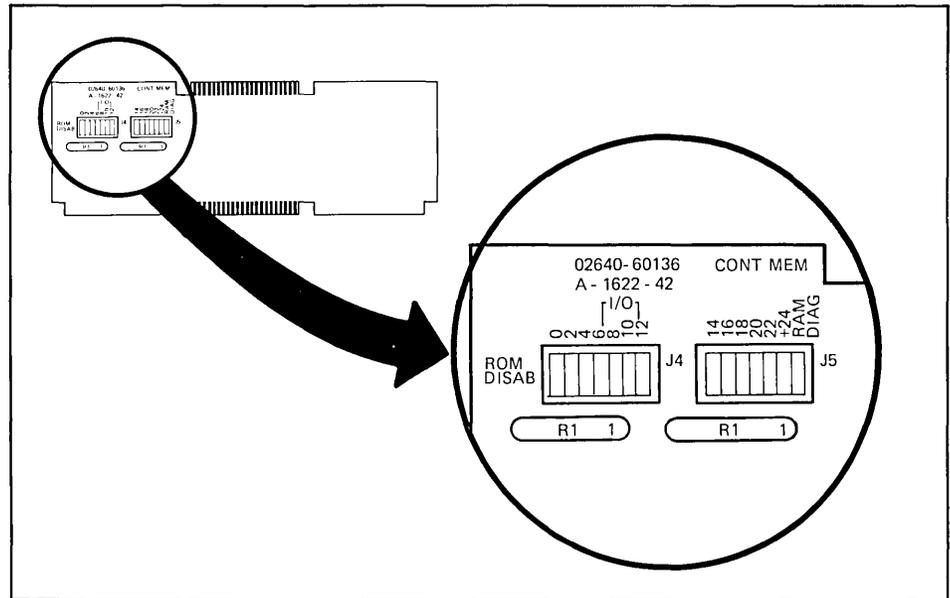

Figure 3-32. Control Memory PCA Jumper Locations
**SELECTABLE CHARACTERISTICS . . . .** Selectable characteristics are listed below (see figure 3-32).